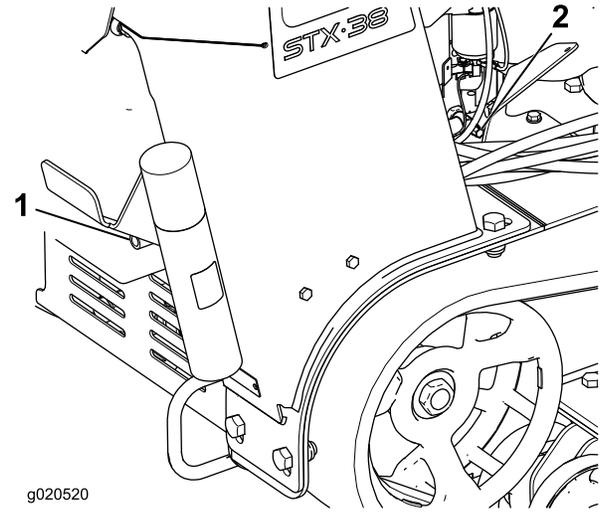

Figure 32
4. Place a pan below the drain hose. Rotate the oil drain valve to allow oil to drain (Figure 32).